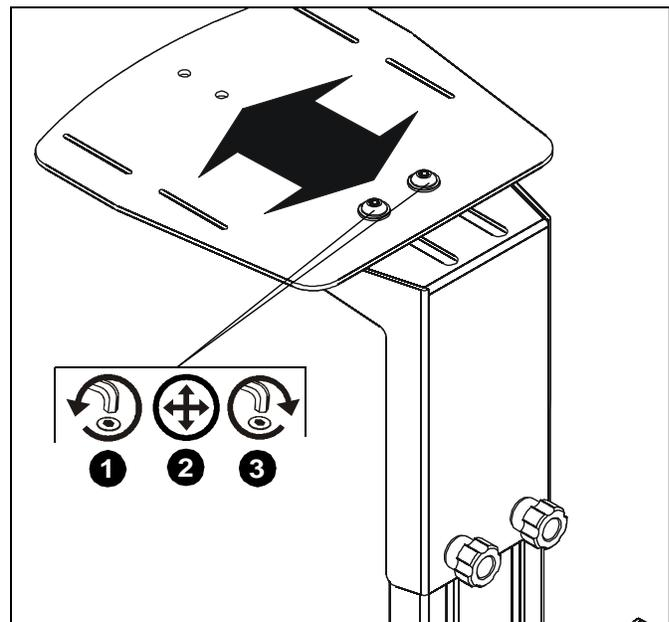

Figure 6
1. Loosen two button head cap screws on video conferencing shelf (A). (See Figure 6)
2. Adjust shelf to desired mounting position. (See Figure 6)
3. Tighten two button head cap screws on shelf until mount is secure. (See Figure 6)